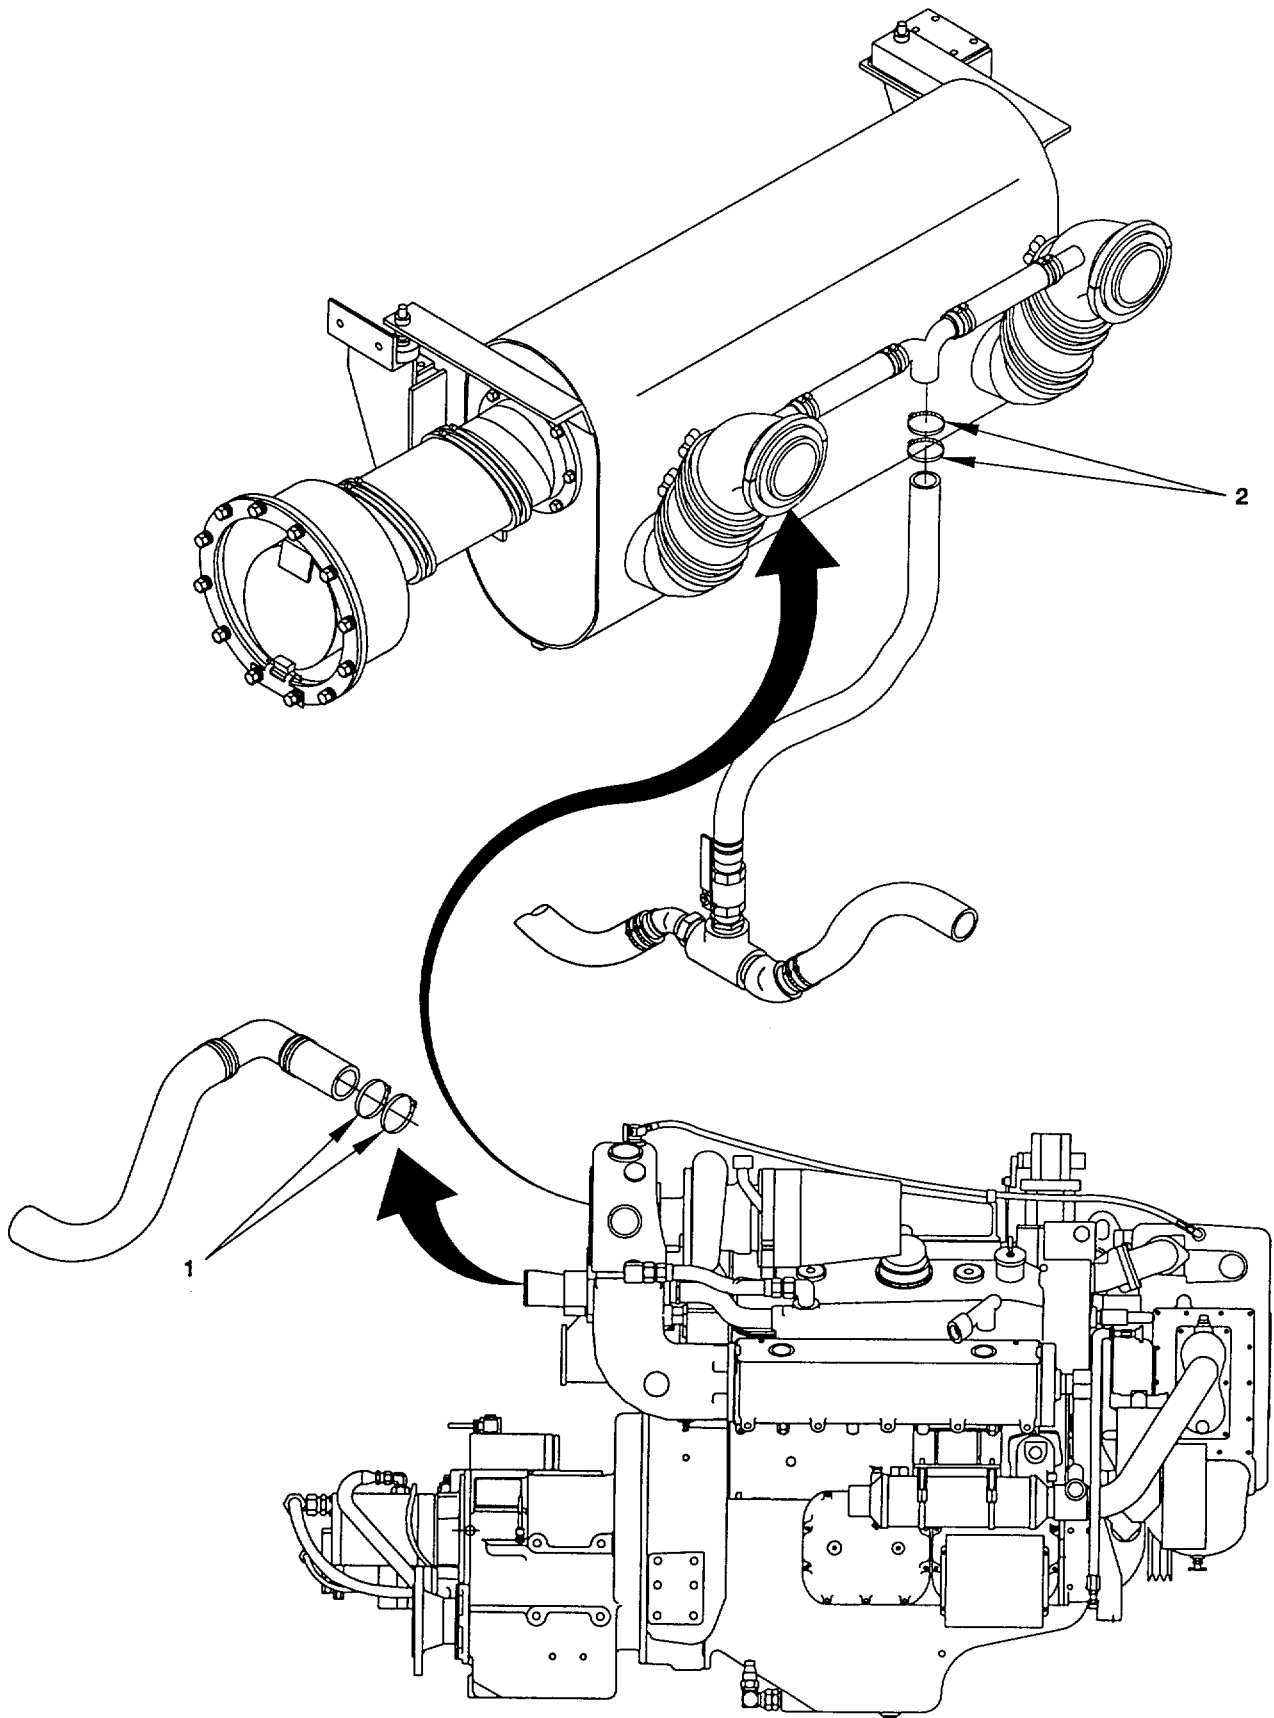

Figure 3-8. Marine Gear, Remove/Install.
a. Remove. (figure 3-8)
- (1) To access and remove the Marine Gear, loosen the two hose clamps (1) connecting the raw water line to the raw water pump. Loosen the two hose clamps (2) connecting the raw water line to the cross-over tee of the exhaust system. Pull hose lines out of way and tie off if necessary (Figure 3-8).
- (2) For removal of the Marine Gear, refer to TM 55-1945-205-24-2 (ENGINE) and TM 55-1945-205-24-3 (MARINE TRANSMISSION), Section H.
b. Install. (figure 3-8)
- (1) For installation of the Marine Gear, refer to TM 55-1945-205-24 (ENGINE) and TM 55-1945-205-24-3 (MARINE TRANSMISSION), Sections L, N1 and N2.
- (2) Connect raw water line (1) to raw water pump and tighten hose clamps. Connect raw water line (2) to exhaust cross-over tee and tighten clamps.